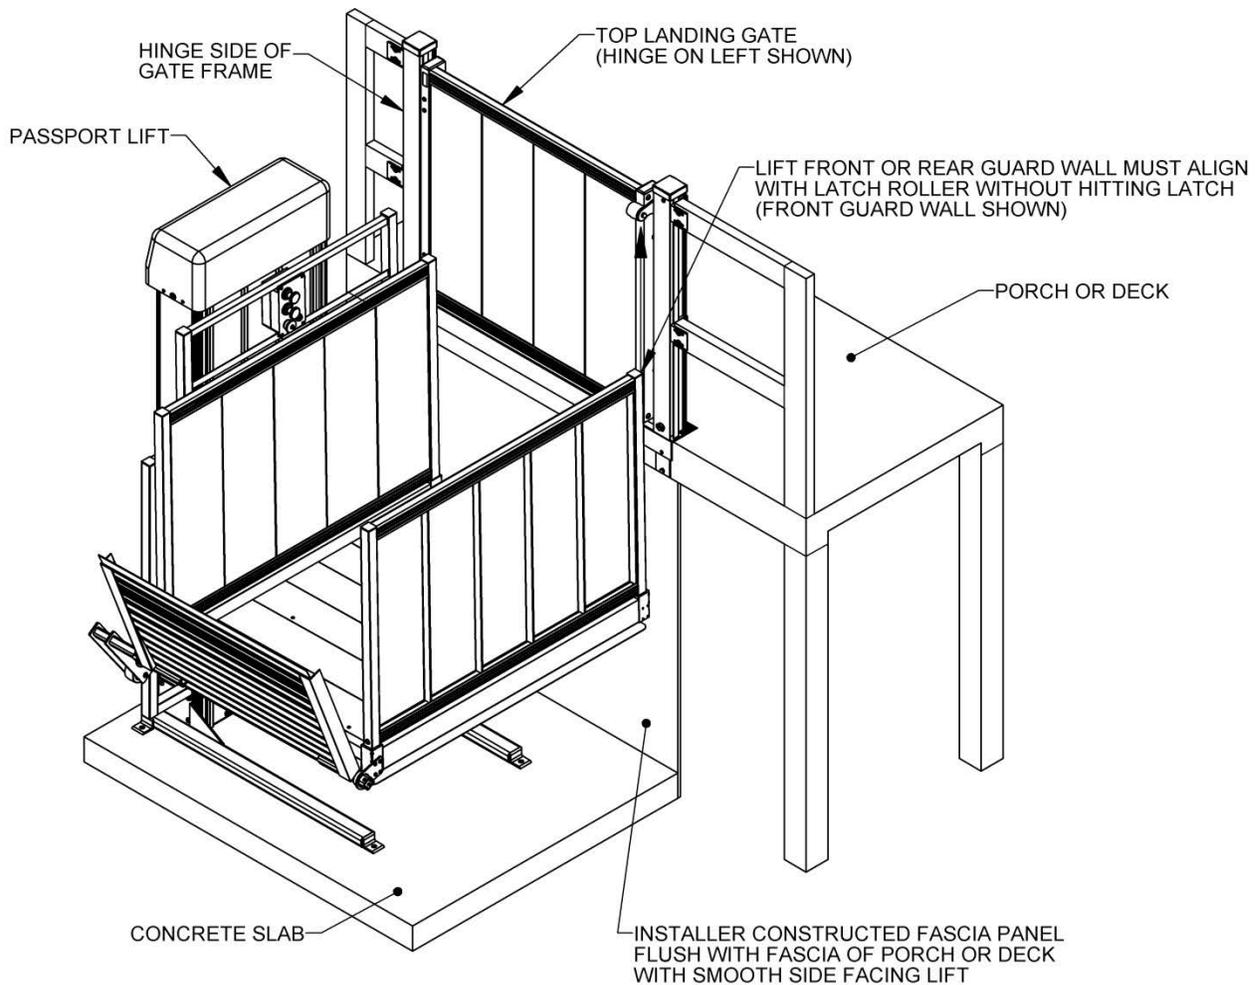

FIG. 6.1
4. Install the VPL as described elsewhere in the manual. The side of the VPL platform opposite the guard ramp must be between 3/8" and 3/4" of the porch or deck and either the front or rear guard wall of the platform aligned with the latch roller on the Top Landing Gate depending on which way the Top Landing Gate opens (FIG. 6.1).